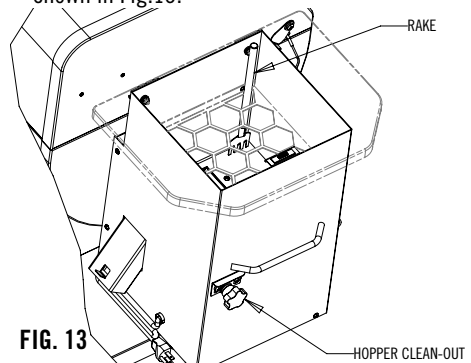

FIG. 13
6. Store the rake in the corner of the hopper as shown in Fig.13.